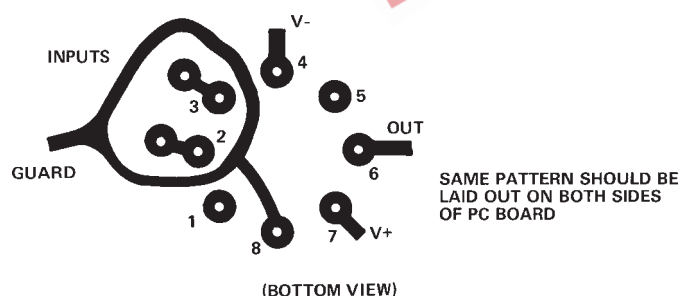
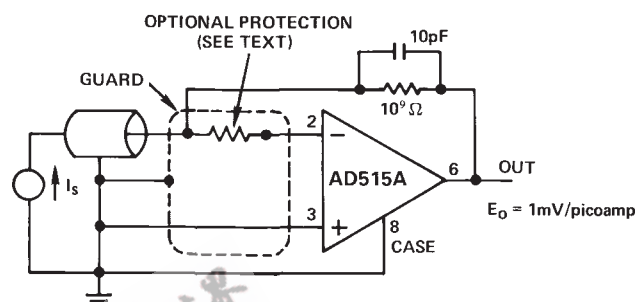

Figure 1. Board Layout for Guarding Inputs with Guarded TO-99 Package
Figure 2. Picoampere Current-to-Voltage Converter Inverting Configuration
2. The use of guarding techniques is essential to realizing the capability of the ultralow input currents of the AD515A. Guarding is achieved by applying a low impedance bootstrap potential to the outside of the insulation material surrounding the high impedance signal line. This bootstrap potential is held at the same level as that of the high impedance line; therefore, there is no voltage drop across the insulation and, hence, no leakage. The guard will also act as a shield to reduce noise pickup and serves an additional function of reducing the effective capacitance to the input line. The case of the AD515A is brought out separately to Pin 8 so it can also be connected to the guard potential. This technique virtually eliminates potential leakage paths across the package insulation, provides a noise shield for the sensitive circuitry and reduces common-mode input capacitance to about 0.8 pF. Figure 1 shows a proper printed circuit board layout for input guarding and connecting the case guard. Figures 2 and 3 show guarding connections for typical inverting and noninverting applications. If Pin 8 is not used for guarding, it should be connected to ground or a power supply to reduce noise.
3. Printed circuit board layout and construction is critical for achieving the ultimate in low leakage performance that the AD515A can deliver. The best performance will be realized by using a teflon IC socket for the AD515A; at a minimum a teflon standoff should be used for the high impedance lead. If this is not feasible, the input guarding scheme shown in Figure 1 will minimize leakage as much as possible; the guard ring should be applied to both sides of the board. The guard ring is connected to a low impedance potential at the same level as the inputs. High impedance signal lines should not be extended for any unnecessary length on a printed
Many instrumentation situations, such as flame detectors in gas chromatographs, involve measurement of low level currents from high voltage sources. In such applications, a sensor fault condition may apply a very high potential to the input of the current-to-voltage converting amplifier. This possibility necessitates some form of input protection. Many electrometer type devices, especially CMOS designs, can require elaborate Zener protection schemes that often compromise overall performance. The AD515A requires input protection only if the source is not current limited and, as such, is similar to many JFET-input designs. The failure mode would be overheating from excess current rather than voltage breakdown. If the source is not current limited, all that is required is a resistor in series with the affected input terminal so that the maximum overload current is 0.1 mA (for example, 1 MΩ for a 100 V overload). This simple scheme will cause no significant reduction in performance and give complete overload protection. Figures 2 and 3 show proper connections.
The conductor-to-shield capacitance of coaxial cable is usually about 30 pF/foot. Charging this capacitance can cause considerable stretching of high impedance signal rise time, thus canceling the low input capacitance feature of the AD515A. There are two ways to circumvent this problem. For inverting signals or low level current measurements, the signal is carried on the line connected to the inverting input and shielded (guarded) by the ground line as shown in Figure 2. Since the signal is always at virtual ground, no voltage change is required and no capacitances are charged. In many circumstances, this will destabilize the circuit; if so, capacitance from output to inverting input will stabilize the circuit.
Figure 2 shows a standard low level current-to-voltage converter. To obtain higher sensitivity, it is obvious to simply use a higher value feedback resistor. However, high value resistors above  $10^9 \Omega$  tend to be expensive, large, noisy and unstable. To avoid